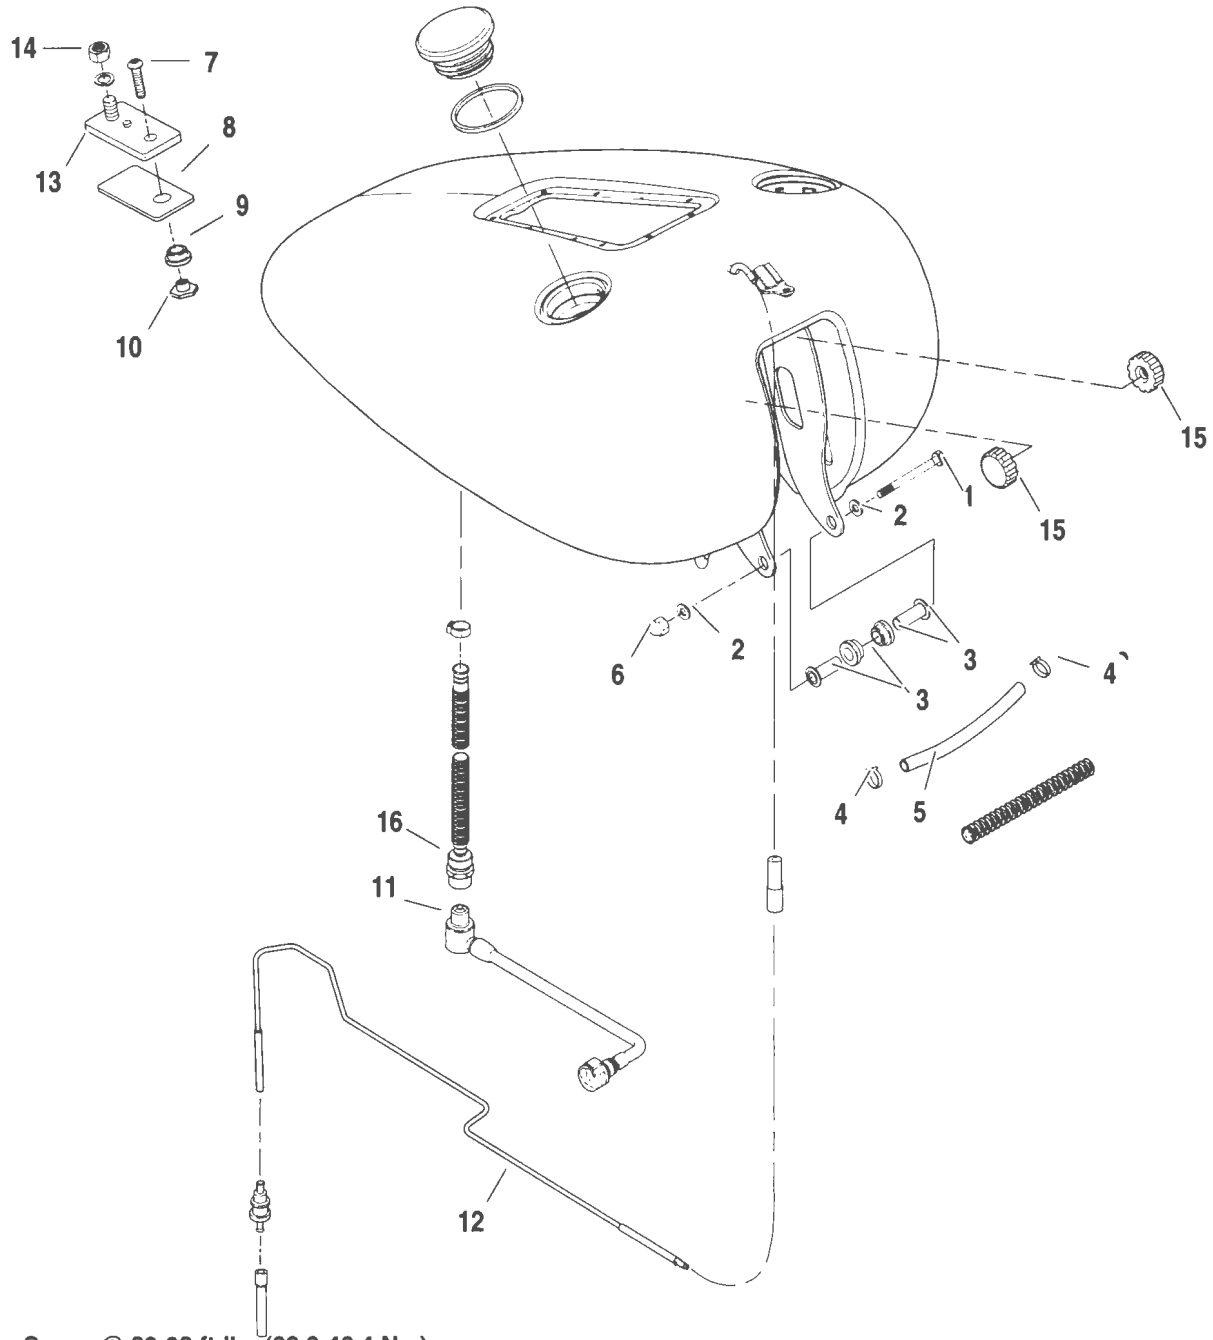

Figure 4-8. Fuel Gauge Connector Location
- b. Remove the acorn nut (6), washers (2), and front mounting screw (1).
- c. Remove continuous vent line (12) from nipple on front of tank.
- d. See Figure 4-8. Disconnect fuel gauge connector [117] located under left side of fuel tank.
2. See Figure 4-8. Connect the fuel gauge connector [117] located under left side of fuel tank.